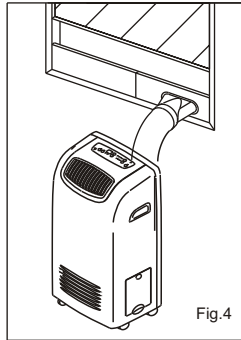
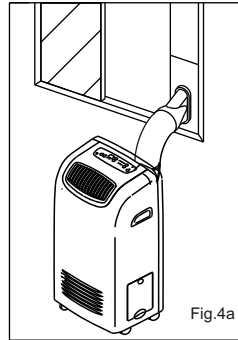

Fig.4
Fig.4a
- 2) Install the Flexible Exhaust Hose and the Adjustable Window Slider Kit as depicted in Fig.4 & Fig.4a